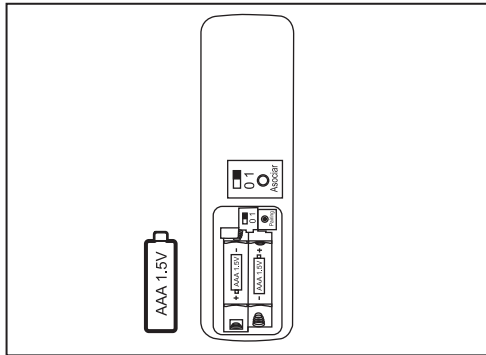

Figure 14
1. Remove the battery cover by pressing firmly on the arrow and sliding the cover off. (Fig. 14)